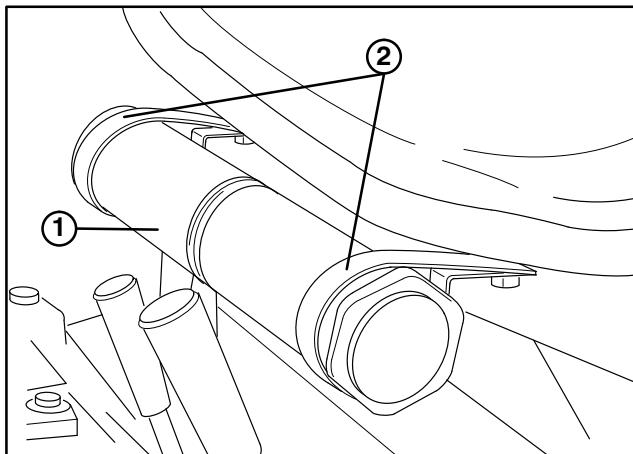

**Figure 7**
6. Adjust seat for operator's comfort and weight. To adjust seat fore and aft, pull handle on left side of seat assembly outward (Fig. 7). Release handle to lock seat position. To adjust for operator's weight, turn spring tension knob; clockwise to increase tension, counterclockwise to decrease spring tension (Fig. 7).